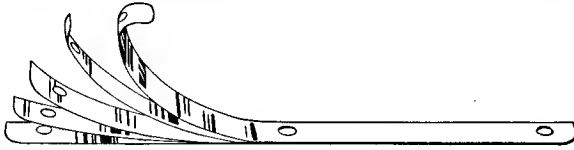

Fig. 6
No play should ever be present in the knee slides. Shims between the knee and knee anchor plates afford necessary take-up adjustment. The shims are .010" thick and made up of (4) .002" and (2) .001" leaves held together with a light film of solder and can easily be separated with a knife blade. See Fig. 6. The .001" side is colored gray.